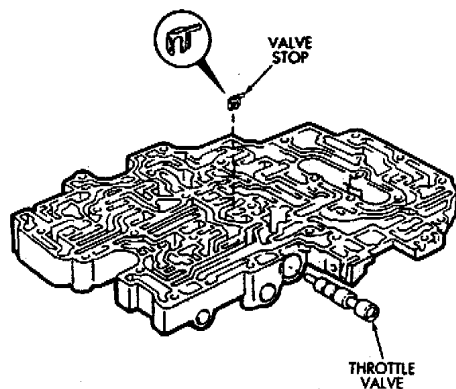

Fig. 16 Installing Throttle Valve And Stop
- (11) Install throttle valve in valve bore. Push valve into place and install valve stop (Fig. 16).